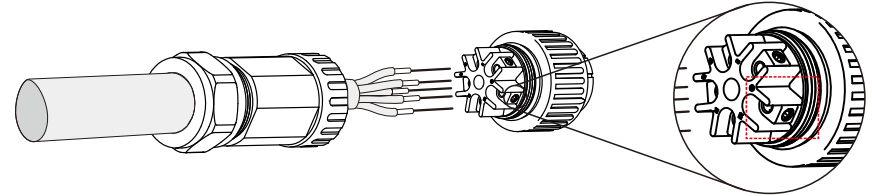

Figure 5.22 Connected cable
A) Stripped the insulation sleeve of cable for 70mm, so that bared copper-core connector reaches for 9mm. Cable through nut and sleeve of socket element, insert corresponding terminals and tighten with allen wrench (see figure 5.22). Torque is 1.8-2.0Nm.
Tighten cable with 3.0 mm allen wrench (focus in dotted box, see figure 5.22). Allen screw is easy to drop off, don't screw out completely.